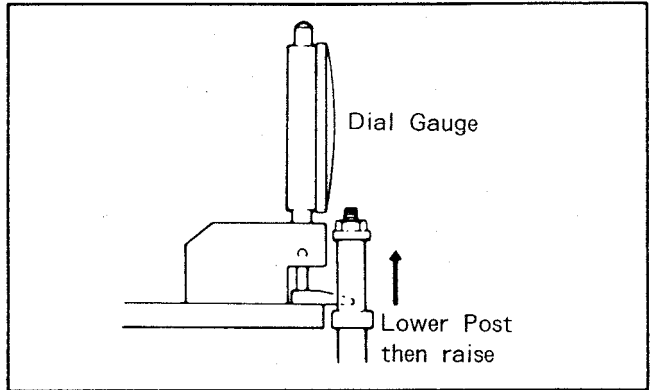

Fig. M2
4. Place the Reel Table Height Gauge on the Post Adjustment Plate and lower the scraper so that it touches the plate (Fig. M2).